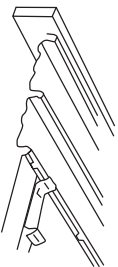

Figure 3.
- 1. Engage another row of clips, with the triangularly punched hole of each pointing in the direction of laying, with each fitting over the male (or underlapping) rib of the last sheet installed. (see fig 3 & 4)